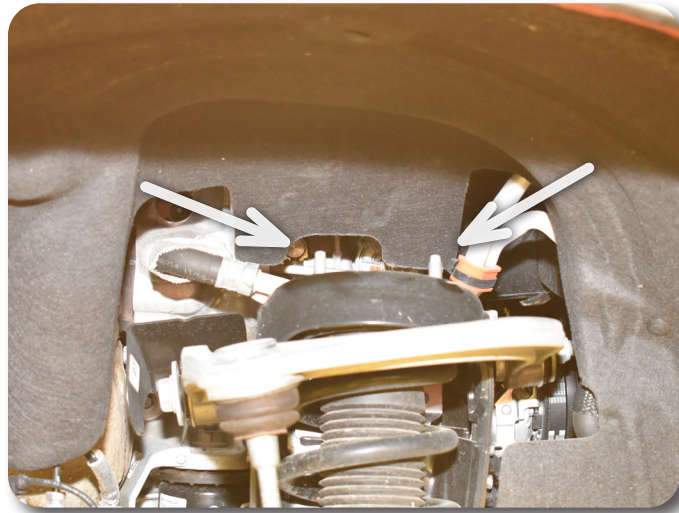

Figure 9
12. Remove the three upper strut mounting nuts at the frame. Figure 9 DO NOT remove the center strut rod nut. Discard the nuts.